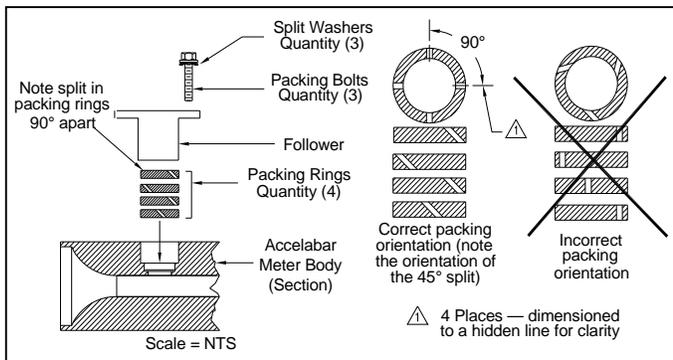

Figure 7. Packing Rings
- Repeat steps for the other three packing rings, being sure that the splits in the packing rings are 90° apart as shown in Figure 7.